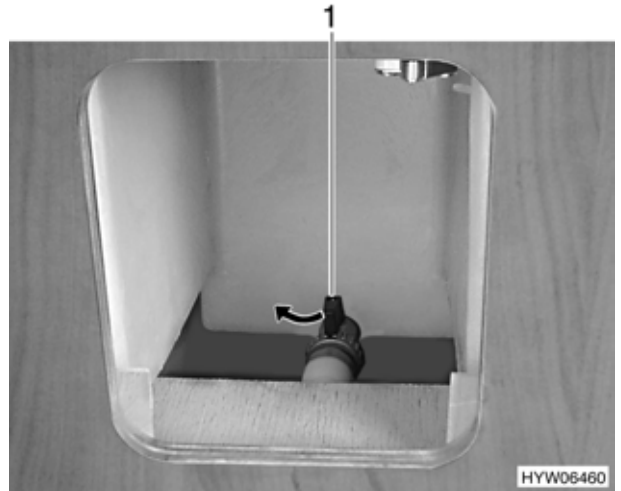

Fig. 146 Fresh water tank, water drain cock, open (variant 2)
Variant 2 (Fig. 146):
- Turn water drain cock (Fig. 146,1) in the direction indicated to close.
- Open water drain cock (Fig. 146,1).